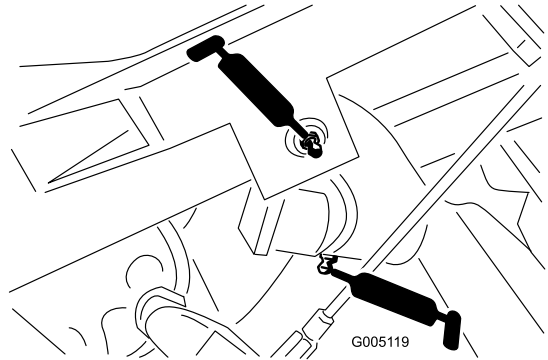

Figure 32
- Lift-arm pivot (3) and pivot hinge (3) (Figure 32)